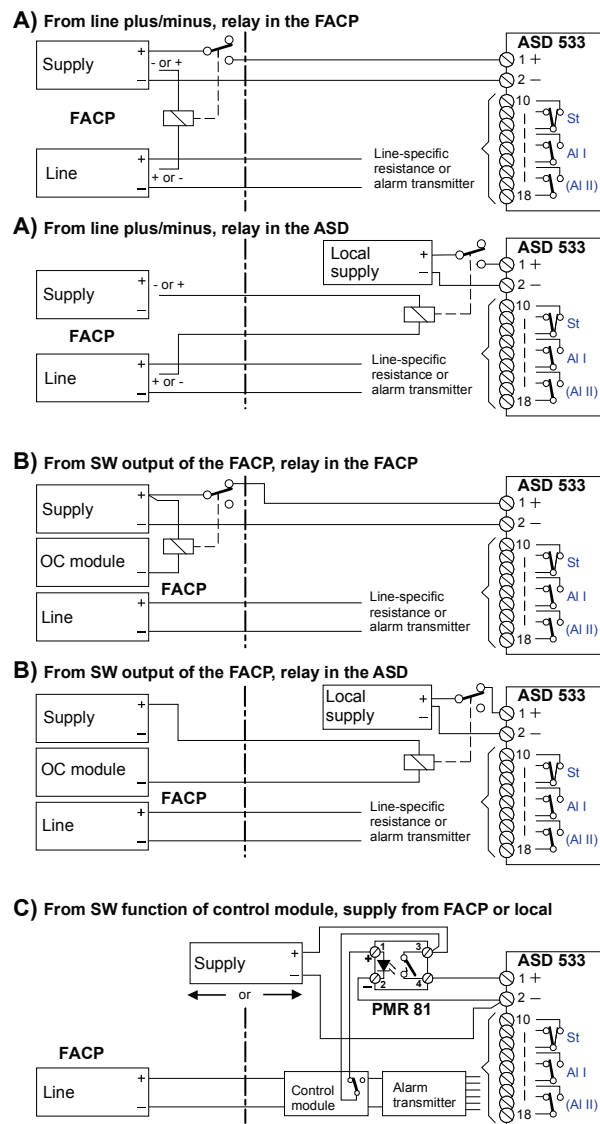

Fig. 35 Control via supply with relay
The auxiliary relay can be actuated in the following ways (see **Fig. 35**):
- The EMC protective elements at the input of the ASD electronics cause a brief current peak (5 A / 1 ms) when the supply voltage is applied. When using auxiliary relays with a maximum contact rating of 1 A, this may lead to the relay contact sticking. For this reason auxiliary relays with a contact rating of **more than 1 A** should be used **as a matter of principle** – e.g. semi-conductor relay PMR 81 (see **Fig. 35 C**)).
- When using a PMR 81 semi-conductor relay, it may be necessary to invert the actuation signal (PMR only has a normally open (NO) contact function).